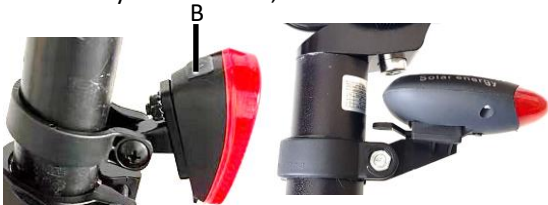

Figure RL2: Rear light models attached to the seat post.
Figure RL2: Attach rear light or rear reflector to seat post using an appropriate tool, e.g. screwdriver. Face straight towards the back of the bike. Make sure it is visible from the back. **Lights:** Push in the **button (B)** to switch the light on and off. If it does not switch on, disassemble the rear light and remove the plastic insert between the battery and terminal, then re-assemble.